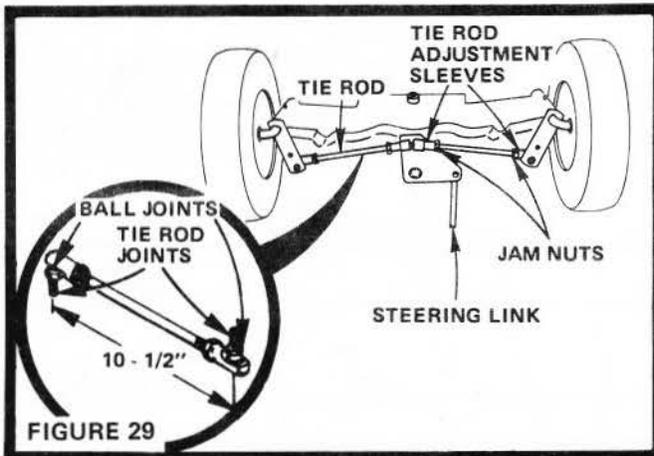

FIGURE 29
- Loosen Jam Nuts (Fig. 29) at each end of Tie Rod Adjustment Sleeves.